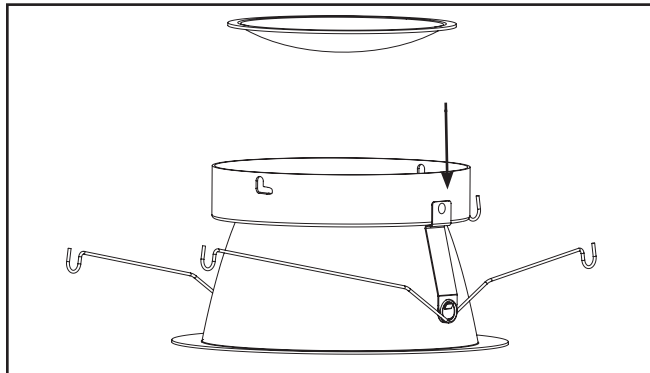

Figure 7.
4. Insert lens into lower trim with concave part facing down (Figure 7).